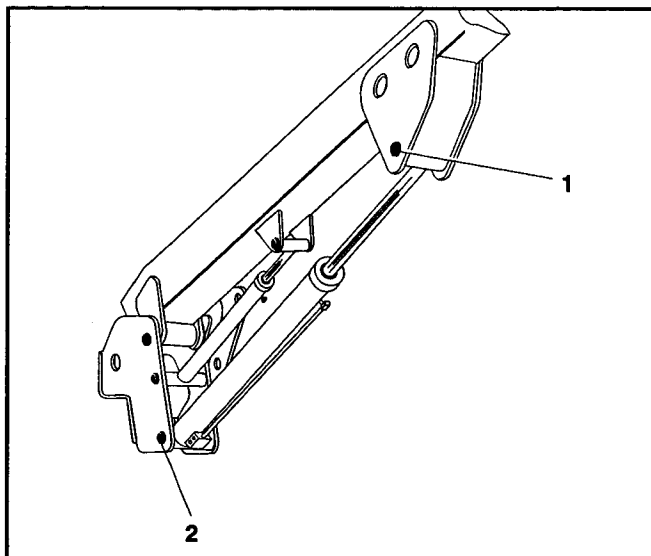

Figure 2-21. Upper Boom Lift Cylinder Removal.
- **Upper (Main) Boom Lift Cylinder Removal. (See Figure 2-21.)**